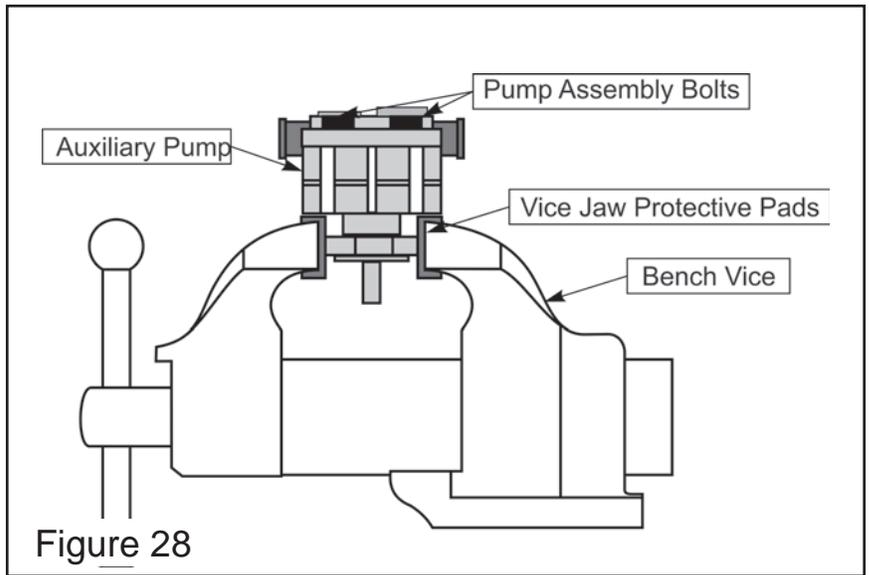

Figure 28
(See Figure 28 and 29)
3. Remove drive key from pump input shaft before beginning the disassembly of pump. (See Figure 28)
4. Secure auxiliary pump in vice. Clamp the pump in a vise with protective devices for the jaws. Clamp the pump in the vice at the pump mounting flange, use caution do not over tighten the vice and damage pump mounting flange. (See Figure 28)
5. Unbolt the pump assembly bolts that hold the two pump halves together. (See Figure 28)